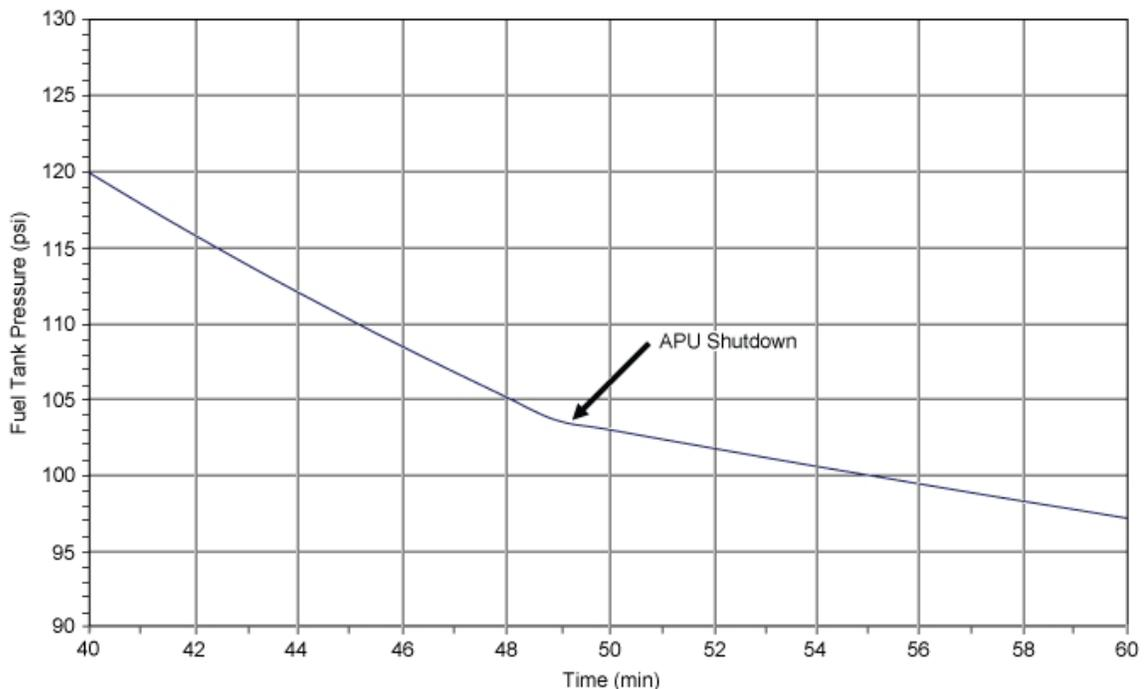

Figure 4: Fuel Tank Pressure vs. Time
F. As the MMACS flight controller, you notice an unusual trend in the fuel tank pressure vs. time plot indicating a possible leak. Since it is difficult to troubleshoot a leak while an APU is in operation, Mission Control will have the crew on board the space shuttle shut one APU down. Figure 4 represents the data from the APU.
- I. Based on the graph (Figure 4), how would you determine if there is a leak in the fuel tank?
- F. As the MMACS flight controller, you notice an unusual trend in the fuel tank pressure vs. time plot indicating a possible leak. Since it is difficult to troubleshoot a leak while an APU is in operation, Mission Control will have the crew on board the space shuttle shut one APU down. Figure 4 represents the data from the APU.